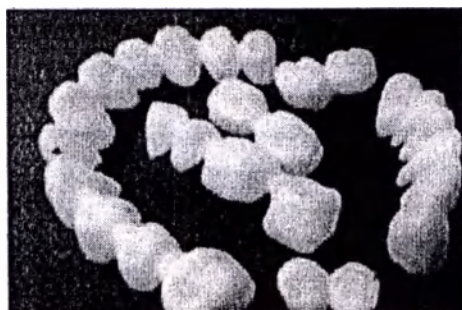

Fig. 14
8) Prior to sintering, make a visual inspection of the framework to make sure that it is intact (Fig. 14)